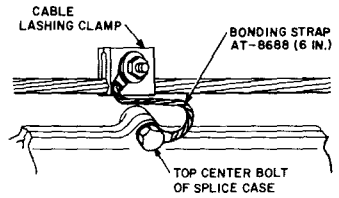

Fig. 20—Bonded Splice Case
6.01 Bond the splice closure to the strand as shown in Fig. 20.